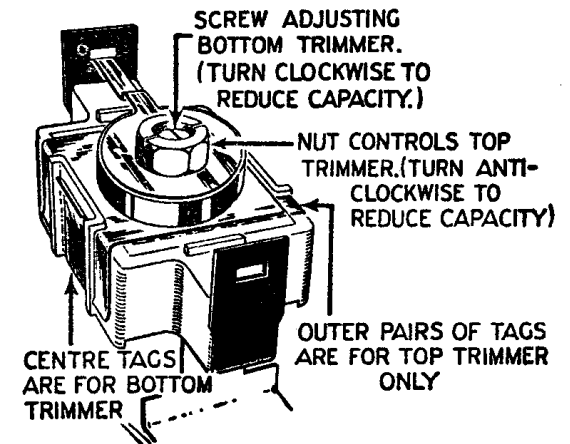

Fig. 5
- (1) Connect the battery leads to their respective points and insert valves.
- (2) Connect oscillator output to grid of V1 (top of valve), and earth oscillator to chassis of the receiver.
- (3) Switch receiver to M.W. and turn tuning condenser to minimum.
- (4) Set oscillator to 456 kc. and adjust primary and secondary of I.F.T.1 (TC3 and TC4) for maximum deflection of output meter needle. An enlarged view of the trimmers is shown in Fig. 5.
- (5) Now adjust I.F.T.2 (TC 7 and TC8) for maximum deflection, and then finally check trimmers TC3 and TC4 (I.F.T.1).